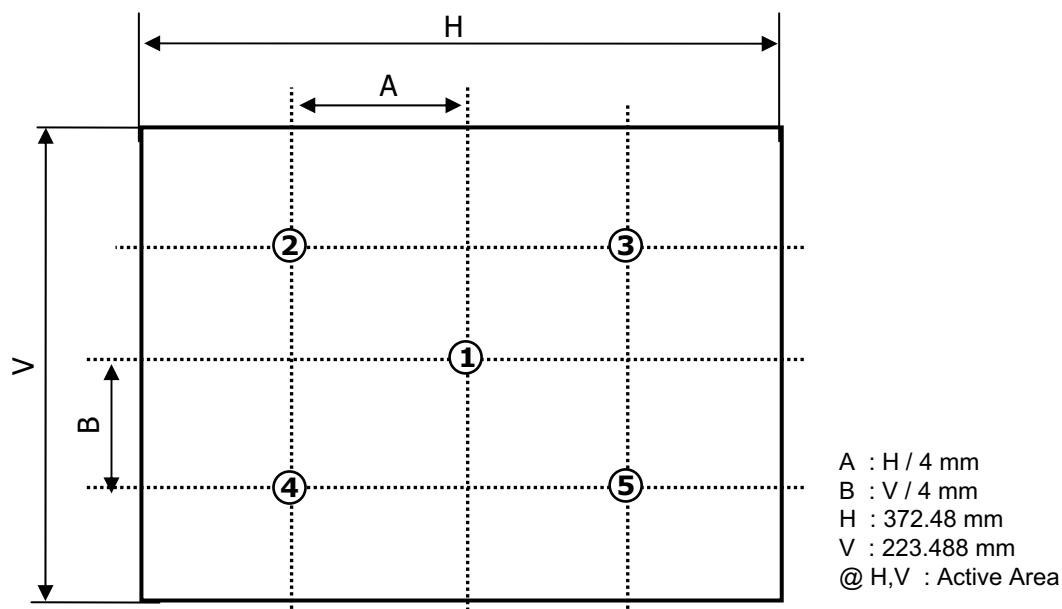

FIG. 2 Measure Point for Luminance
- Surface luminance is luminance value at center point (1) across the LCD surface 50cm from the surface with all pixels displaying white. For more information see FIG 2.
For more information see FIG 2.